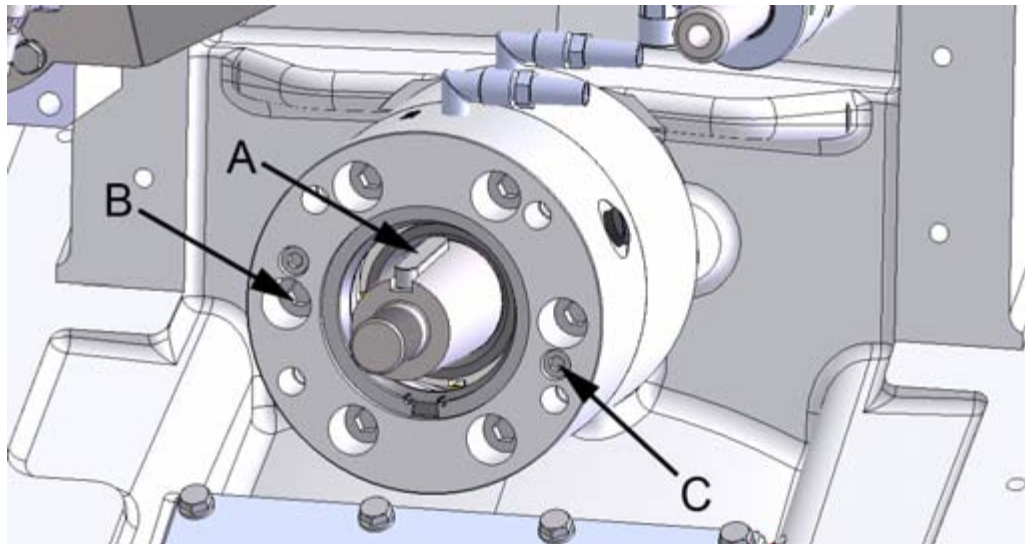
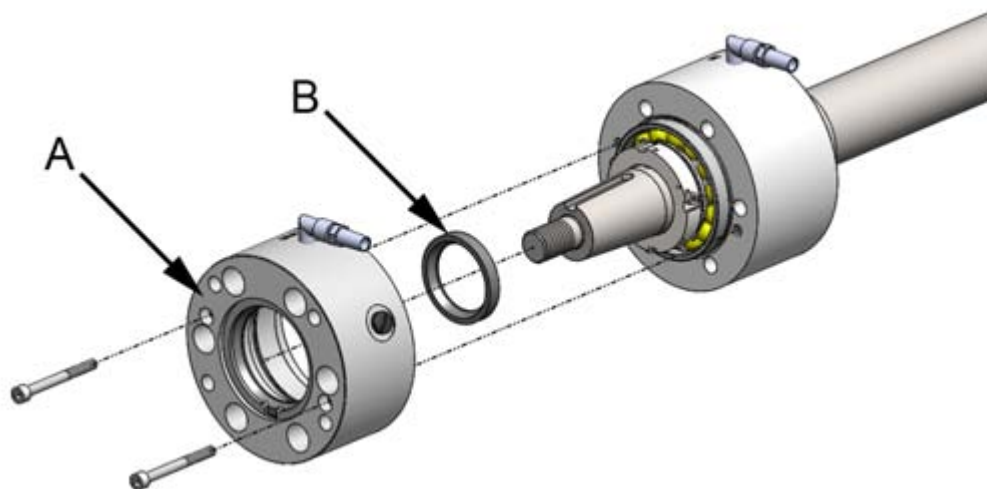

Figure 4. Removing the bearing housing
Figure 5. Bearing housing cover
4. Remove the key from the shaft (figure 4, point A).
5. Open the bearing housing screws (6 pcs, figure 4, point B).
Use the two M6 holes, from which the screws must first be removed (figure 4, point C). Replace the screws with longer screws or threaded rods, and tighten them until they bottom out. Tighten them evenly until the bearing housing comes loose from the frame.
7. Open the bearing housing cover screws (2 pcs, figure 4, point C) and remove the bearing housing cover (figure 5, point A).
8. Remove the drive flange shaft seal (figure 5, point B) if you did not already remove it before with the drive flange.